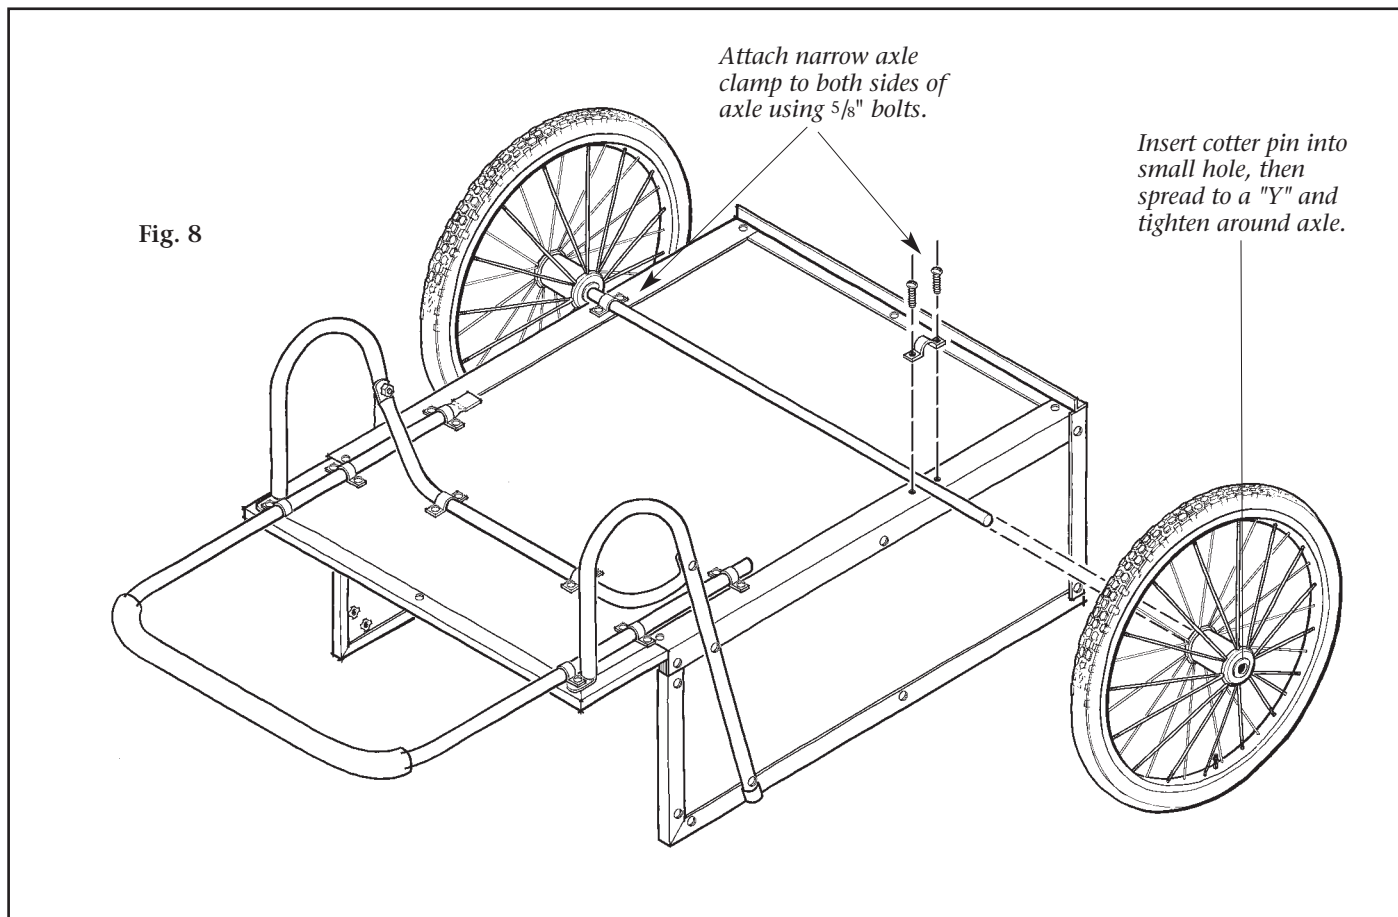

Fig. 8
**Step 14.** Put one end of the axle through a wheel hub (Fig. 8). Insert a cotter pin through the small hole in the axle that is located on the outside of the wheel hub. Use pliers to spread the ends of the cotter pin apart to form a "Y" around the end of the axle.
Position the axle on the bottom panel so that the wheels line up evenly on both sides. Fasten the axle to the bottom panel using the narrow axle clamps and two  $\frac{5}{8}$ " bolts per clamp (Fig. 8). Finally, turn the cart upright. The assembly is finished.